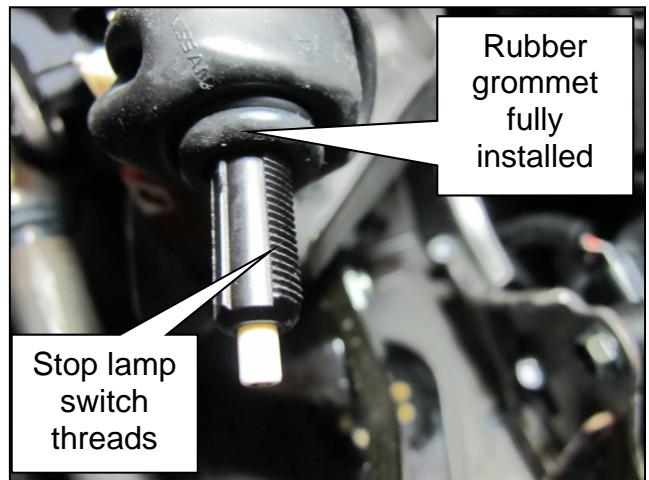

Figure 4
**NOTE:** When the rubber grommet is fully installed, the threads of the stop lamp switch will be exposed (Figure 4).